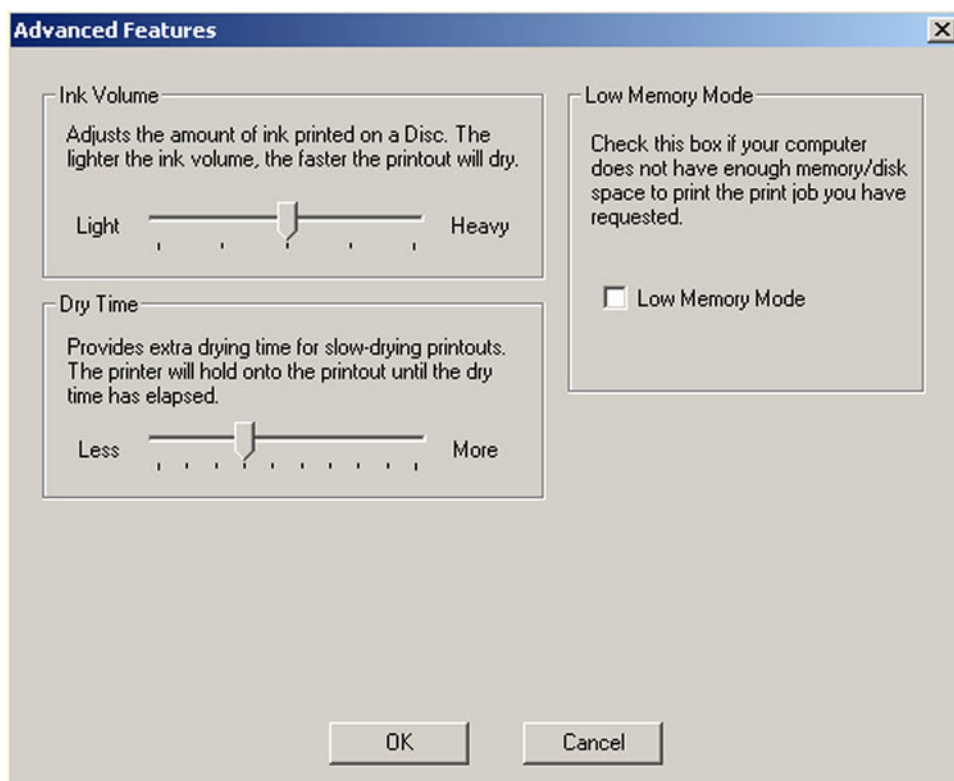

Fig. 19
- c. Select *Advanced Features* and you are presented with the following options (Fig.19):